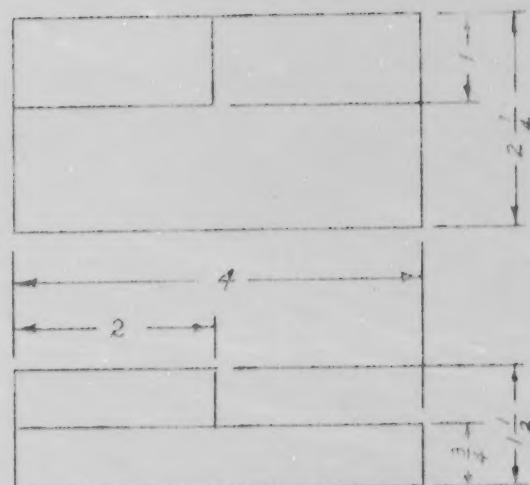

Figure 2
4. Draw figure 2 on page 6.
- b. Draw two views of figure 2 in orthographic projection.
- d. Draw an oblique view of figure 2 on page 6.